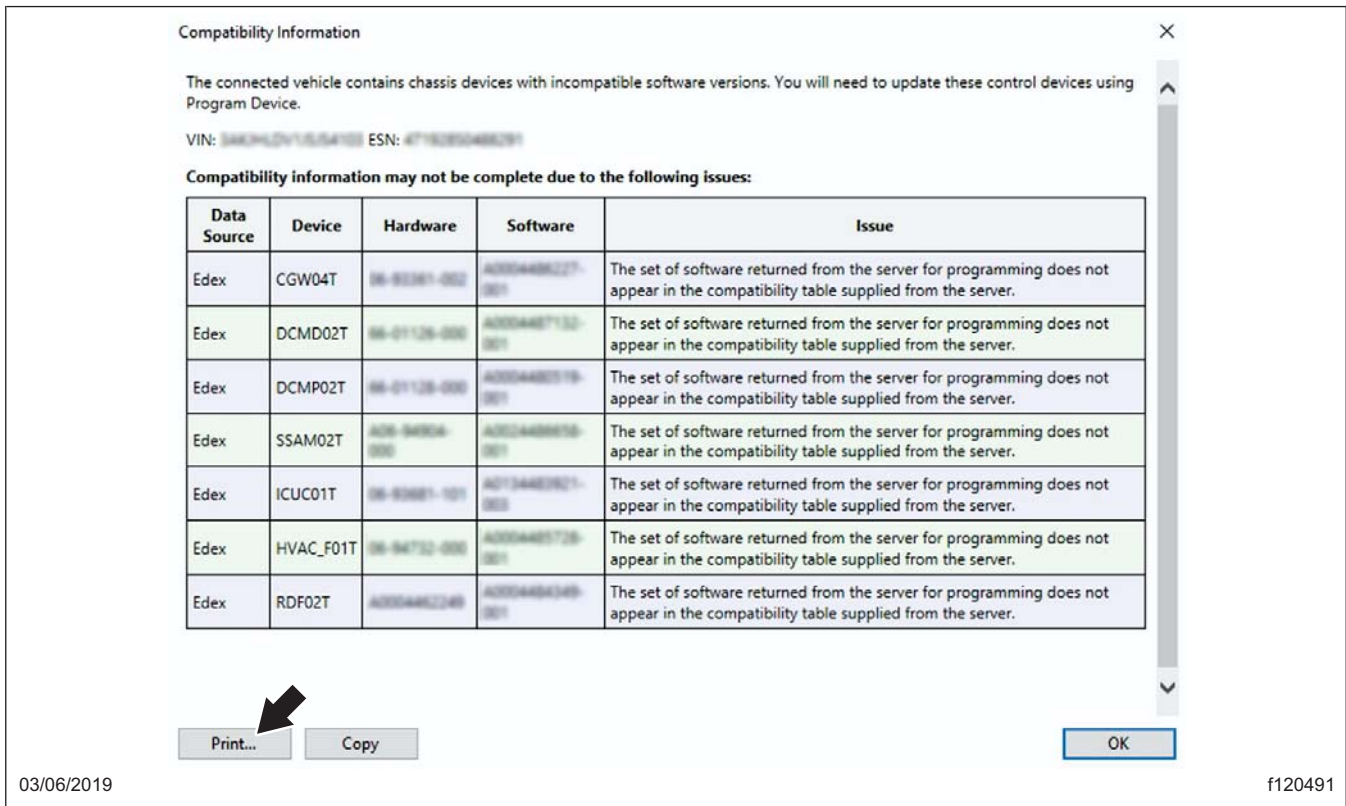

Fig. 11, Printing the Compatibility Information Window
14.1 Print or capture a screen shot of the 'Compatibility Information' window; an example of this window is shown in Fig. 11.